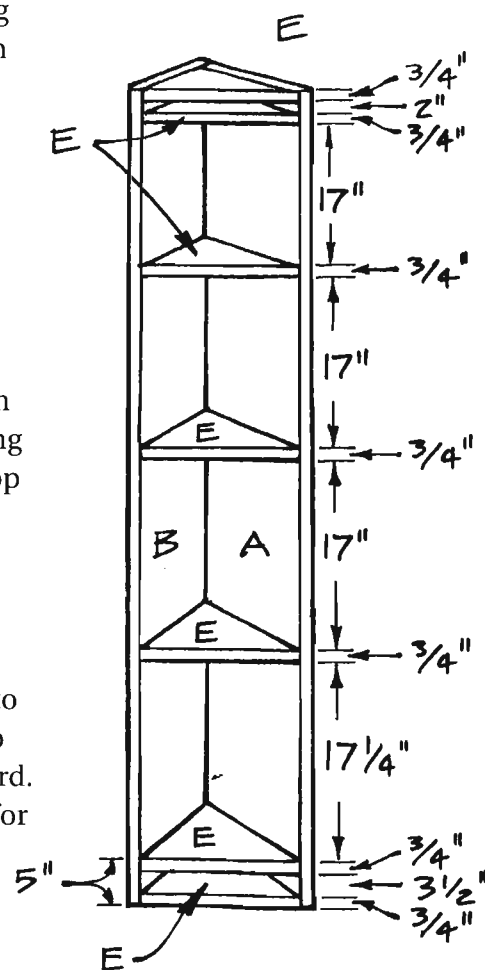

Figure 4
2. Measure and mark the placement of all of your shelves (E), following the diagram in *Figure 4*. The top and bottom shelves (E) should be flush with the top and bottom of the cupboard backs (A and B).
3. Check the fit of each triangular shelf (E) in its position before attaching it. Secure the shelves (E) to the cupboard backs (A and B)